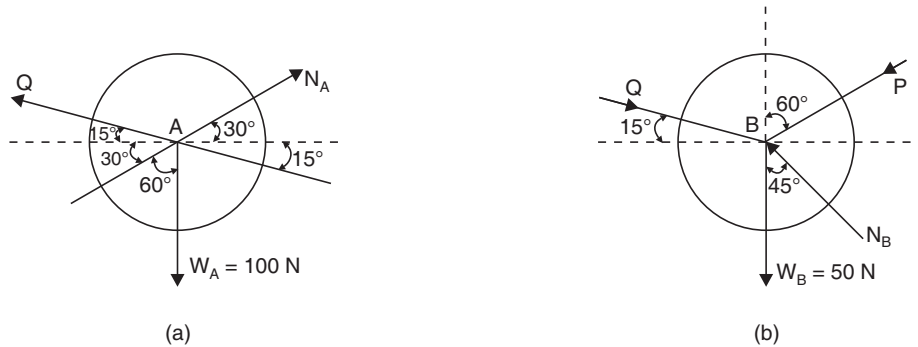

Fig. 2.56
**Sol.** Free body diagrams (FBDs) for cylinders A and B are shown in Fig. 2.56 (a) and (b) respectively. In these figures  $N_A$  and  $N_B$  represent the reactions (normal) on the cylinders A and B respectively and  $Q$  represents the force exerted by the connected bar. It may be noted here that the direction of the force  $Q$  will be along the line AB, joining the centres of the two cylinders, because the bar AB is a two force member and the two forces acting on it must be equal and opposite to keep it in equilibrium.